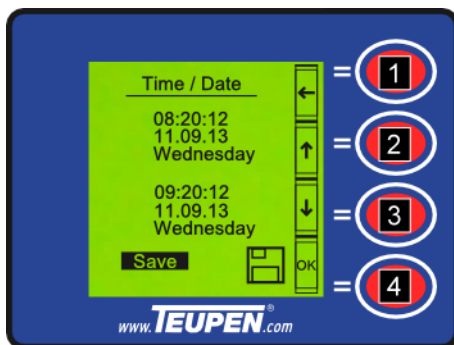

Fig. 72: Saving the time setup
6. Use the [function keys] (Fig. 72/2 and 3) to set the cursor to "save".
7. Use the [function key] (Fig. 72/4) to confirm the setting.
8. Use the [function key] (Fig. 72/1) to return to the 'Setting' menu.